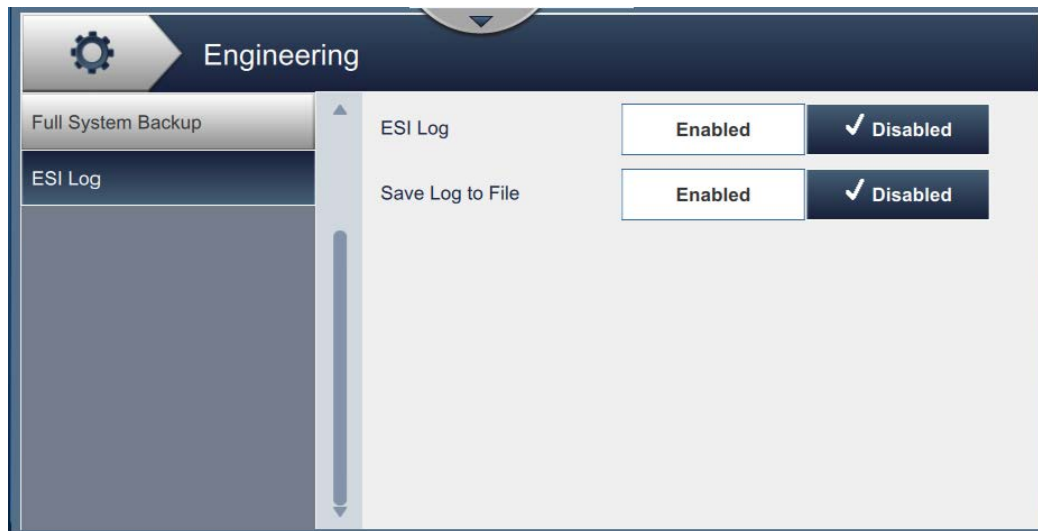

Figure 7-32: ESI Log Screen
6. The ESI Log screen opens as shown in Figure 7-32.